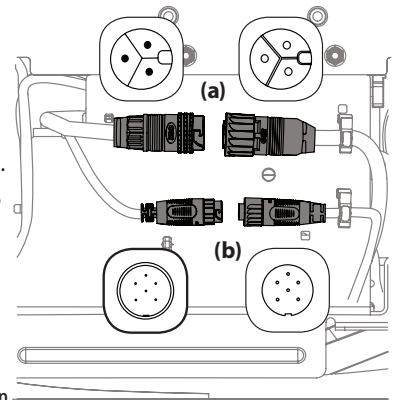

Figure 21
- Disconnect the deck motor(s) from the adapters on the underside of the tractor. Rotate the connectors 1/4-turn counterclockwise and pull down. See Figure 21.